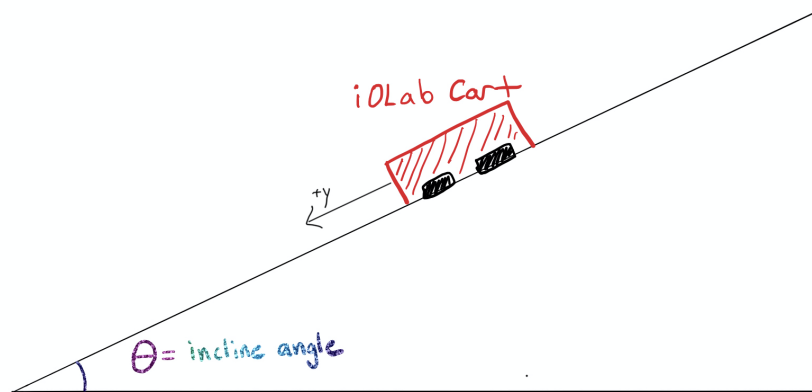

Figure 1: The inclined plane set-up with incline angle θ .
- i. Set up an inclined plane (like you did in Experiment 1 and as shown in Figure 1). You will need to **determine the angle**. Measure that angle as before by making measurements of length and height using a meter stick. Be careful and clear about what measurements you are taking.